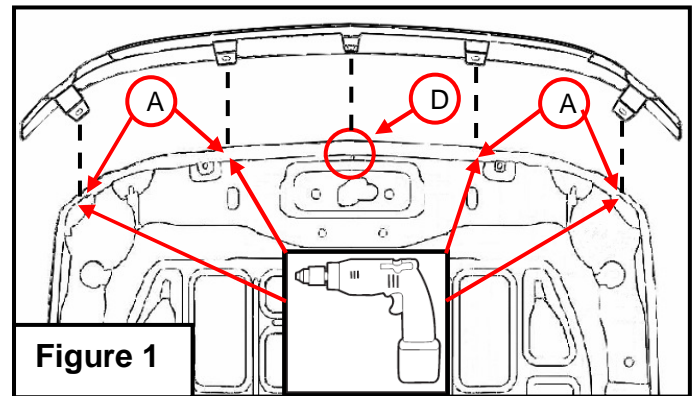

Figure 1
2. Trial fit Hood Shield by aligning the center mounting point up with the center factory hood slot. **(Figure 1)** **(NOTE: Some vehicles have a tab in the center mounting slot that will need to be removed for proper hardware alignment.)**
4. Remove Putco Hood Shield from hood and drill holes using a 5/32 drill bit. **(Figure 1)** Use the marks made in *Step-3* as a guide for the drilling.
5. Re-fit Hood Shield to the factory hood by aligning the rubber well nuts up with the factory slot. **(Figure 1)** Attach Hood Shield to the vehicle by installing the center mounting point first and working outwards. Tighten screws just enough to hold hood shield in place.